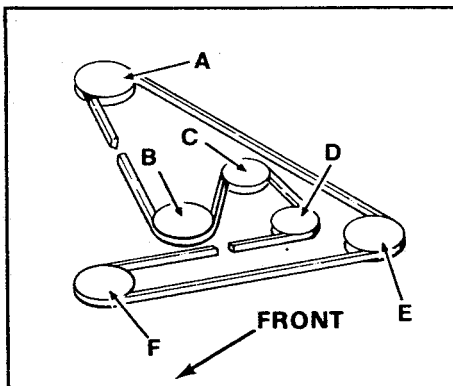

Figure 24. Mower Belt Pattern
7. Install the new belt on the pulleys. The belt pattern is shown in figure 24. Notice that the "V" side of the belt drives the V-pulleys and flat side of belt rides on the flat idler pulleys. Be sure there are not twists in the belt. Reinstall and tighten the belt stops.